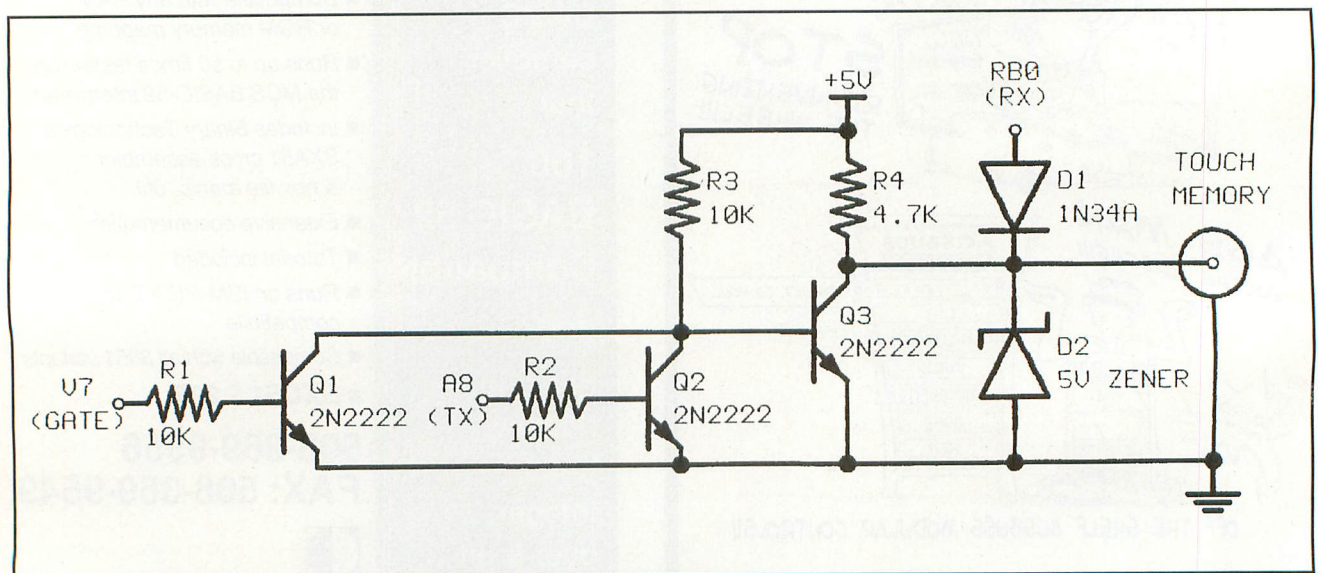

Fig. 1. Schematic details of the Touch Memory upgrade for the I/O Board.
A simple interface is required to connect the DS1994 to the appropriate lines on the I/O Board, which is illustrated in Fig. 1. Diode D2 must be a 1N34A germanium device simply because the voltage drop across a silicon diode is too great for this application.
Any low-power design should use the following three techniques: (1) selection of low-power components; (2) turning off things when they're not in use; and (3) utilizing low-power processor operating modes. We'll describe the Data Logger from these perspectives and then discuss the software needed to run it and how you can build the Data Logger. Refer to the complete Data Logger schematic diagram shown in Fig. 1 throughout the following discussion.
ric pressure, sound level or some other analog variable. A microcontroller with a built-in A/D converter eliminates the need for a separate A/D chip and the software required to operate it. PIC16C71 U2 in Fig. 1 has an eight-bit A/D converter with a four-channel multiplexer that you can measure four different variables. It also has on-chip a variety of handy features, like a power-on reset circuit, a real-time clock counter, four interrupt sources and a watchdog timer. You'll be using everything except the watchdog timer in the Data Logger, which will give you a very good feel for the capabilities of this microcontroller.